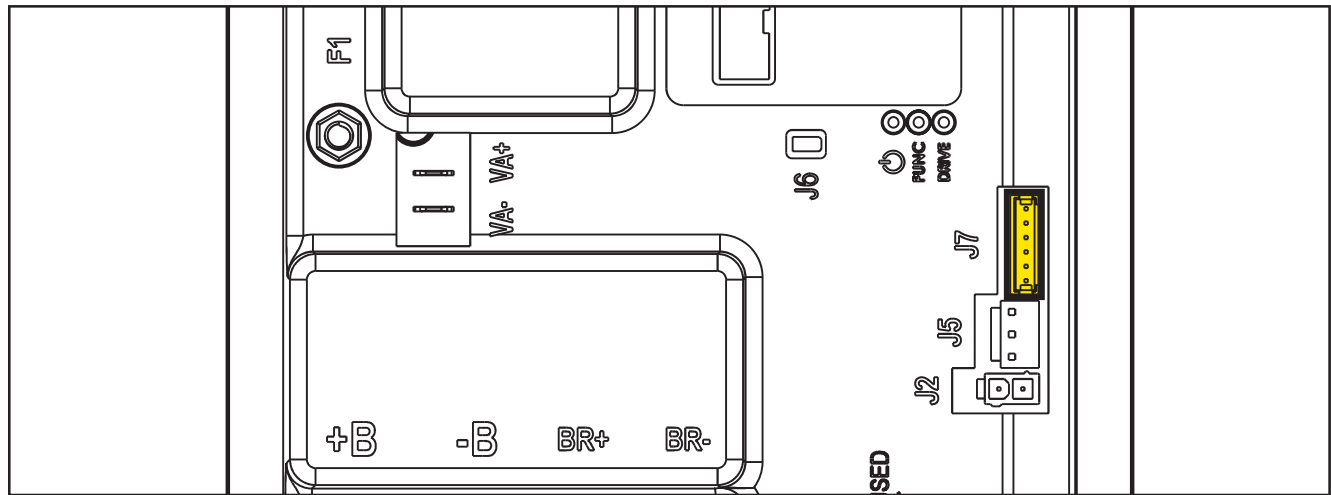

Figure 28:
**(Figure 28) J7: TYCO MODU II vertical 6-way**